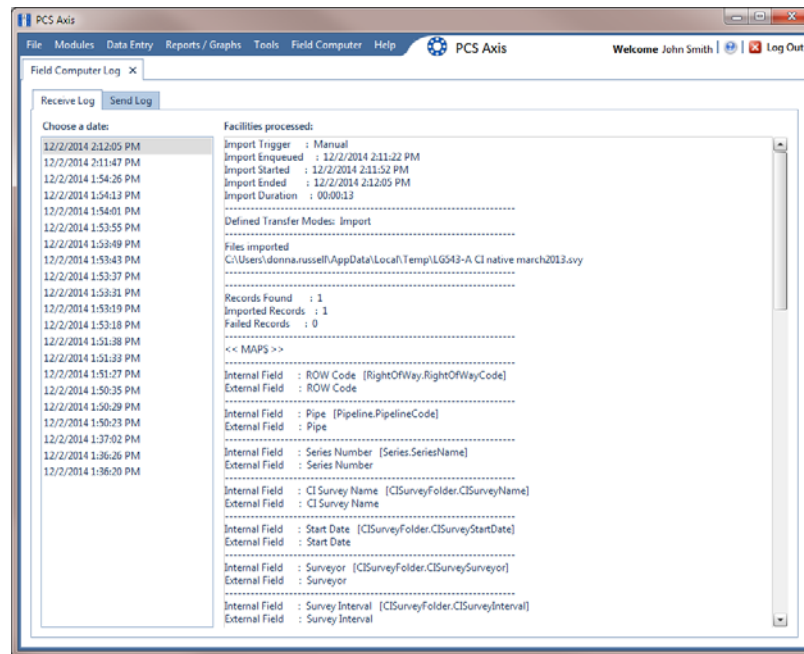

Figure 13-43. Field Computer Log / Receive Log
- 3 Click the **Receive Log** tab to view facility records received in PCS Axis from the Allegro Field Computer (Figure 13-43).